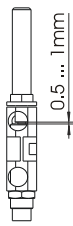

fig 3
1. Loosen conternut (1) of stop screw (2).
2. Adjust stop screw (2) to precise travel path. (Adjustment range 0-15 mm)
3. Lock stop screw (2) with conternut (1).
5. Now screw shock absorber against the stop so that the shock absorber ram has a remaining stroke of approx. 0.5 – 1.0 mm, see detailed view fig 3.
6. The shock absorber (3) can now be finally locked in place.